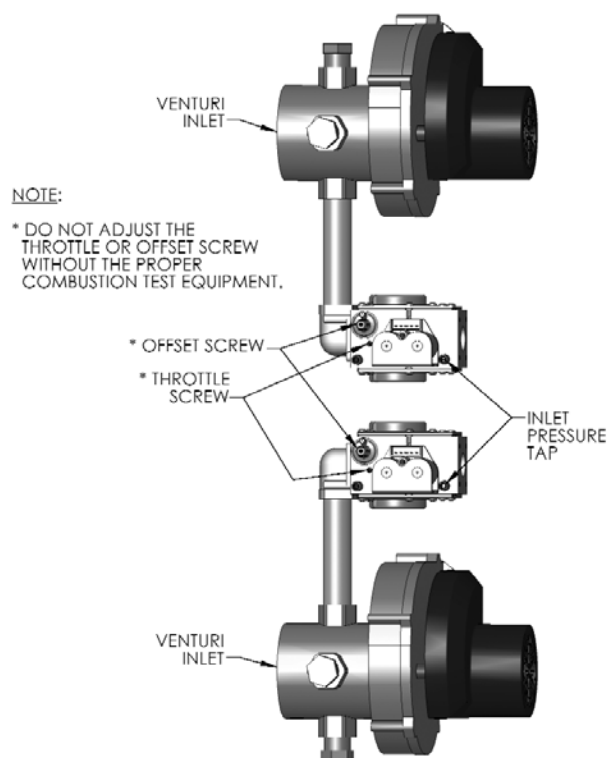

Figure 5.2: Gas Valve, Venturi and Blower Assembly
- c. Using a flat screwdriver, turn the screw inside the inlet pressure tap fitting (see Figure 5.2) one turn counterclockwise.
1. Figure 5.2 is an illustration of the main gas valve, venturi and blower assembly for the *PUREFIRE*® boiler.
2. Do not make adjustments to the gas valve without instrumentation to measure carbon dioxide (CO₂) and carbon monoxide (CO) emissions in the exhaust vent pipe.